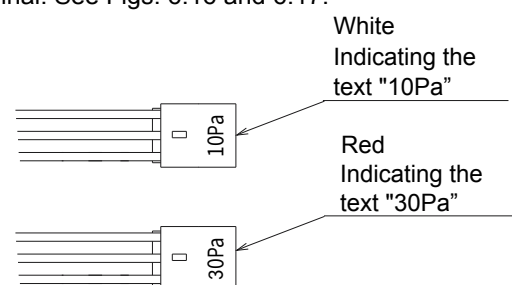

Fig. 6.16 Switching between external static pressures of 10Pa and 30Pa
- (1) Fix the wire clamp body and its nuts to the wiring hole of electric box using a torque of 1.0~1.2N.m.
- (2) Connect the cable of wired control to the connectors on the printed circuit board in electric box through the wire clamp and wiring hole.
- (3) Connect power cord and the communication cables of indoor and outdoor units to corresponding terminals of electric box in the same way.
- (4) Upon completion of electrical wiring, the wire clamp nut shall be manually tightened to block condensate and insects.
- (5) The external static pressure of the indoor unit is 10Pa, while the 10Pa plug (white) of motor is connected to base board PCBN18 terminal at delivery. To set the external static pressure to 30Pa, please connect the 30Pa plug (red) of motor to the base board PCBN18 terminal. See Figs. 6.16 and 6.17.